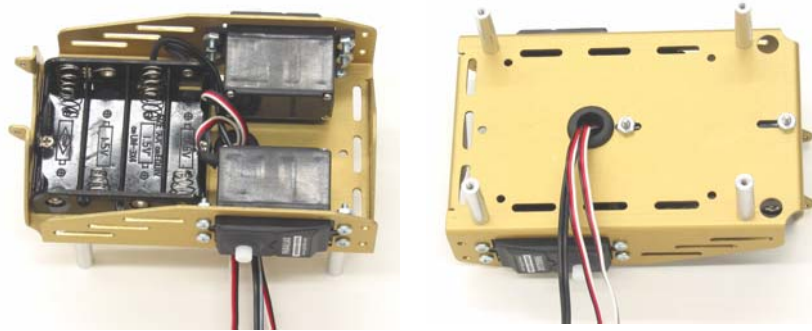

Figure 3-6
- √ Use the flathead screws and nuts to attach the battery pack to underside of the Boe-Bot chassis as shown on the left side of Figure 3-6.
- √ As shown on the right side of Figure 3-6, pull the battery pack's power cord through the hole with the rubber grommet in the center of the chassis.